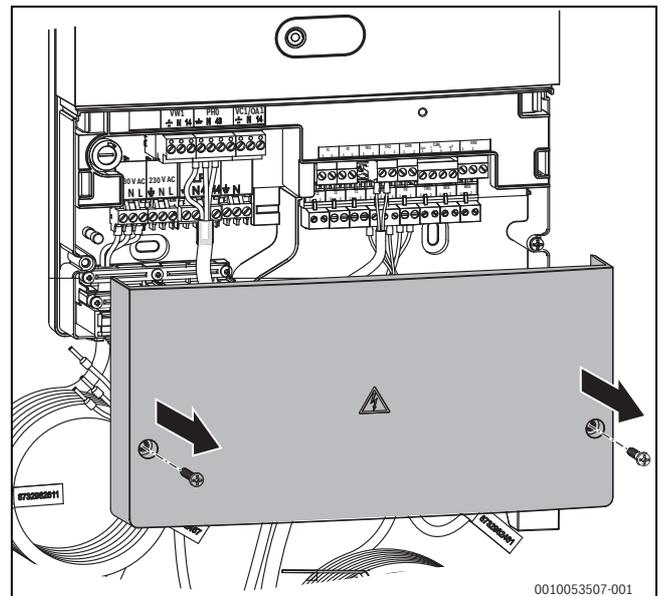

Fig. 27 Remove the cover of the hybrid manager
- ▶ Remove two screws in the cover of the hybrid module and take off the cover (→Fig. 27).